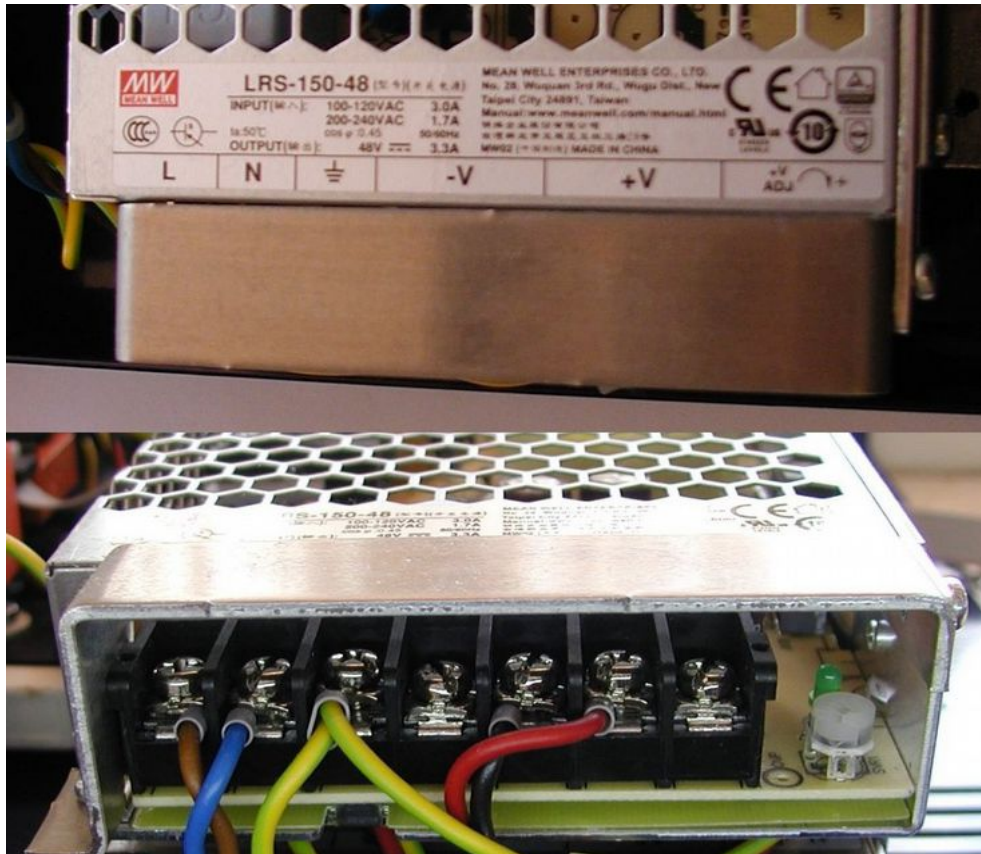

Fig. 32: AC/DC module terminal cover (above); note use of sleeved connectors
- AC/DC module terminal cover (Fig. 32)
Finally, an AC/DC module terminal cover should be mounted as an additional protective measure (Fig. 32).